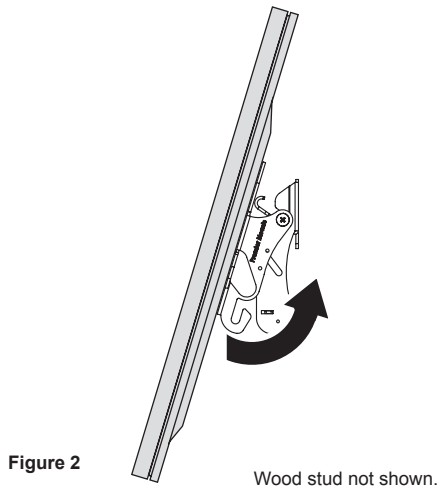

Figure 2
- 2) Rest the bottom hooks of the front component against the bottom tabs of the back component (Figure 2).